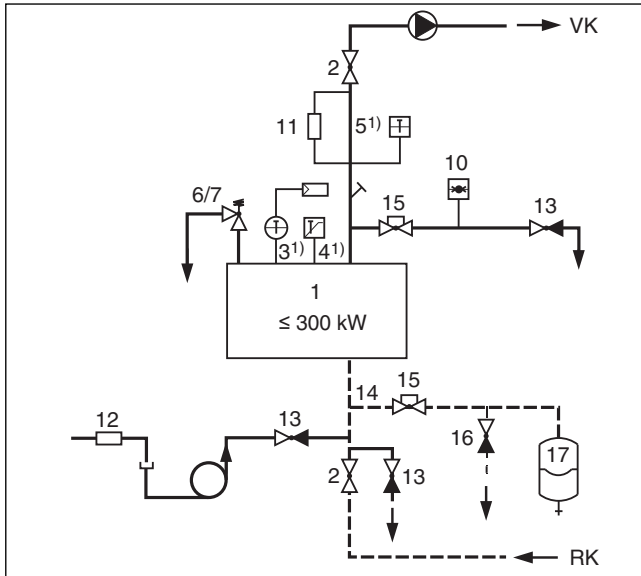

Fig. 37 Safety equipment to AS3814 for boilers $\leq 300\text{ kW}$ with high limit safety cut-out $\leq 99^\circ\text{C}$ (direct heating)
- 1) (For Fig. 37 and 38) Standard equipment of the boiler control unit: The maximum achievable flow temperature in combination with control units from the CFB 9xx series is approx. 18 K lower than the shutdown temperature (high limit safety cut-out).
Key to fig. 37 and 38: